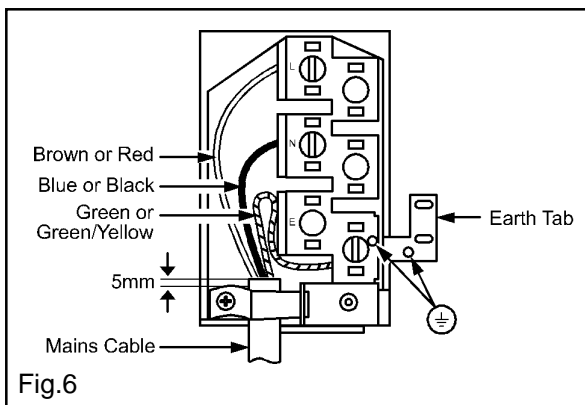

Fig.6
- Do not remove the screws from the earth tab extending from the oven mains terminal block (Fig. 6).
- Make connection as shown in Fig. 6 by proceeding as follows:-
- Clamp the mains cable securely ensuring 5mm of the outer insulation is inside the terminal block and that the wires are not taught but not so slack as to cause any fouling. See Fig. 6.